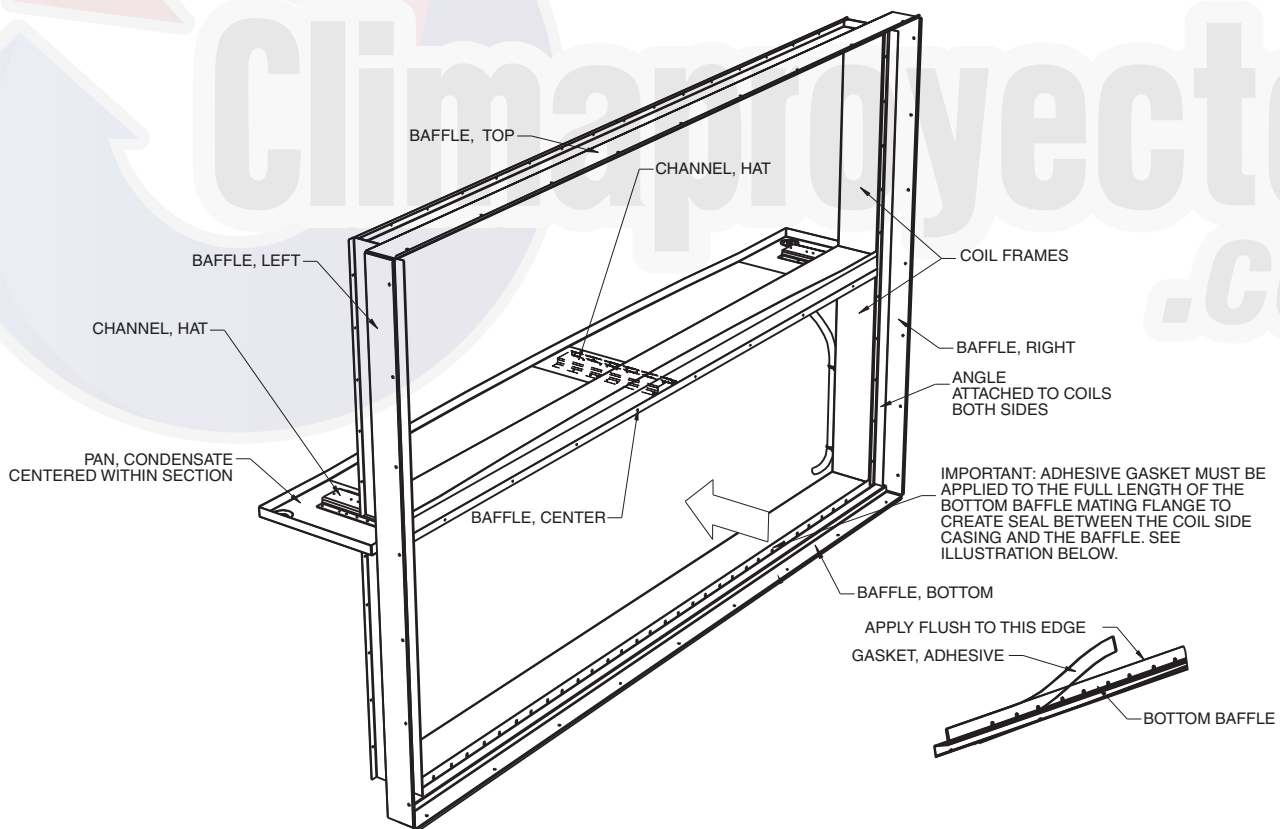

Fig. 174 — Coil Frames and Baffle
- Remove the fastening screws of the uppermost coil from the upstream side. Note that the fastening screws pass through the vertical angle, baffles, and coil casing. See Fig. 174. Removal of the fastening screws may require reaching through an opened damper assembly, reaching through a filter track after filters are removed, or removing a coil immediately upstream.
- On the upstream side of the stacked coils, remove and set aside the center baffle spanning the two coils (see Fig. 174).
- Remove the fastening screws of the lowermost coil from the upstream side. Note that the fastening screws pass through the vertical angle, baffles, and coil casing. See Fig. 174. Removal of the fastening screws may require reaching through an opened damper assembly, reaching through a filter track after filters are removed, or removing a coil immediately upstream.
- Inspect the adhesive backed gasket applied to the lower baffle, spanning the entire unit, on the surface that contacts the coil (see Fig. 174). If damaged, remove the remainder of the old gasket and replace.